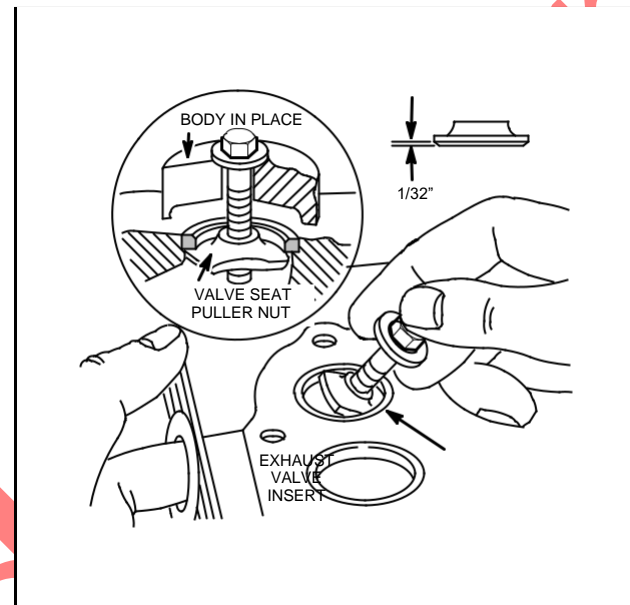
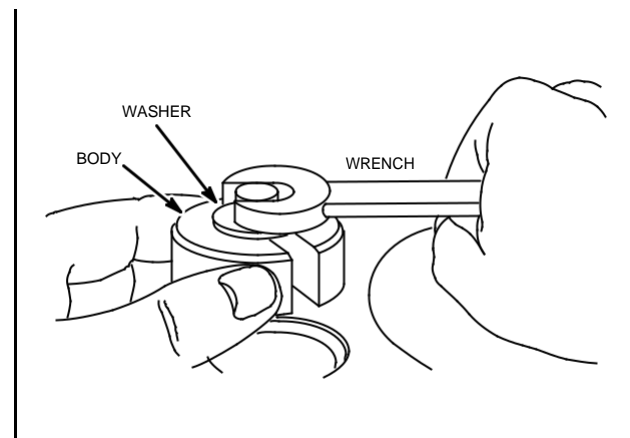

Fig. 523 – INSERTING VALVE SEAT PULLER
Fig. 524 – REMOVING VALVE SEAT
Select correct tool, Table No. 20, and insert seat puller nut as shown in Fig. 523. With puller nut under valve insert, place body under washer. Tighten 5/16" cap screw with a wrench until valve seat insert comes out of cylinder, Fig. 524.
**NOTE:** On aluminum alloy cylinder models, it may be necessary to grind the puller nut until the edge is 1/32" thick in order to get the puller nut under the valve insert, Fig. 523.